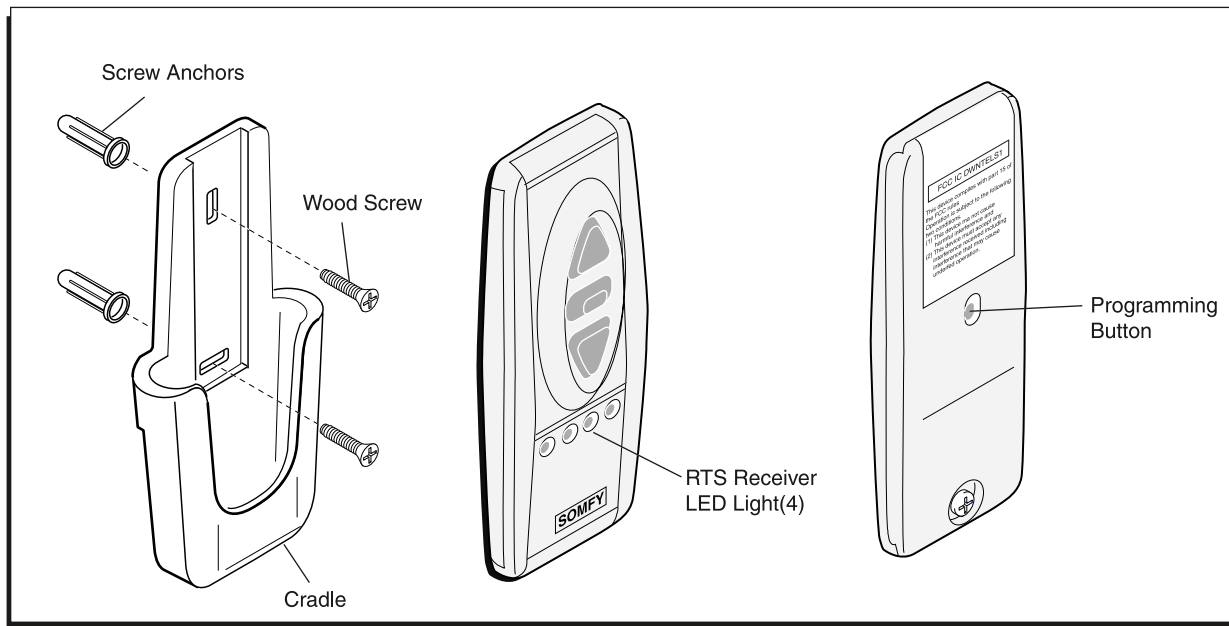

FIGURE 34
- a. Place remote control mounting bracket/cradle into position and mount using screws and anchors provided (Fig. 34).
1. Press the Programming Button (PROG) of the receiver located in control box (see Fig. 34, lower right corner) until **LED lights**. This indicates that for one (1) minute the receiver is ready to receive the address of the transmitter. After this time, the LED goes out.
2. Press the Programming Button on the back of the **transmitter** (Fig. 34) with a ballpoint pen until the **receiver's LED blinks**. The address of the transmitter is instantly memorized and the receiver automatically ends the programming mode.